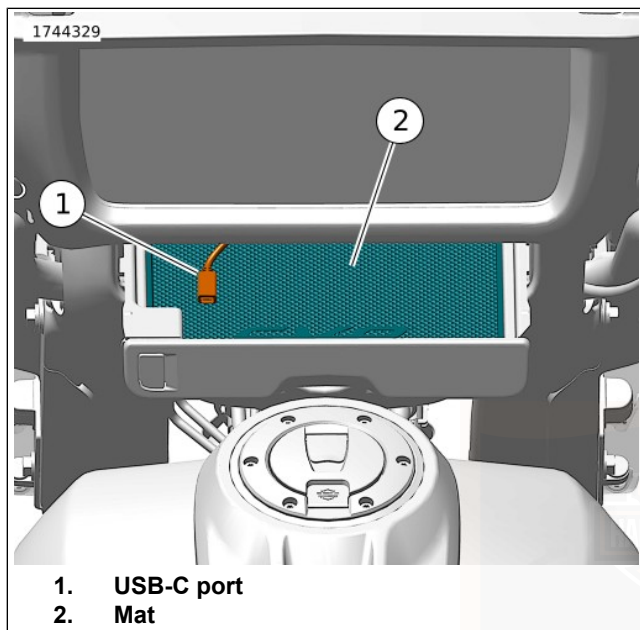

Figure 59. Media Tray (Open)
**Install USB or media device:** See Figure 59. Connect device to the USB-C port (1). Rest device on the padded mat (2). Close the compartment door.